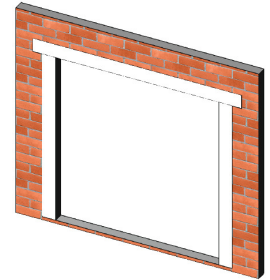

Figure 11:
2. At each jamb, embed the flashing paper into the sealant onto mounting flange and fasten into place. The flashing paper should be cut sufficiently long enough to extend at least 3 in. past the weep-screed or diado flashing and at least 6 inches above the head of the window (Figure 11).